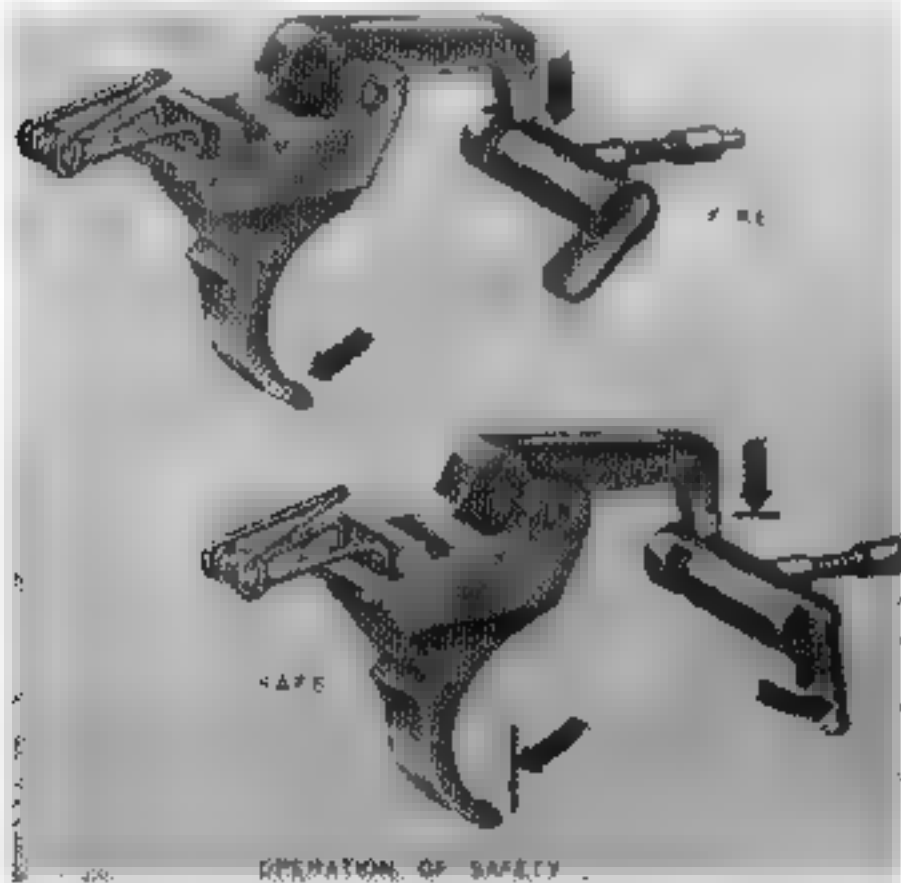

Figure 43. How the safety works.
a. *The Safety.* To see how the safety works, cock the hammer and rotate the safety downward to the *safe* position. As you rotate the safety downward the trigger notch in the safety rotates to the rear and in its place the solid portion of the safety is exposed to the forward end of the trigger. Attempt to squeeze the trigger. The solid portion of the safety now blocks the forward end of the trigger, preventing the trigger from moving. Since the trigger cannot move, the hammer remains stationary and the weapon does not fire (Fig. 43).